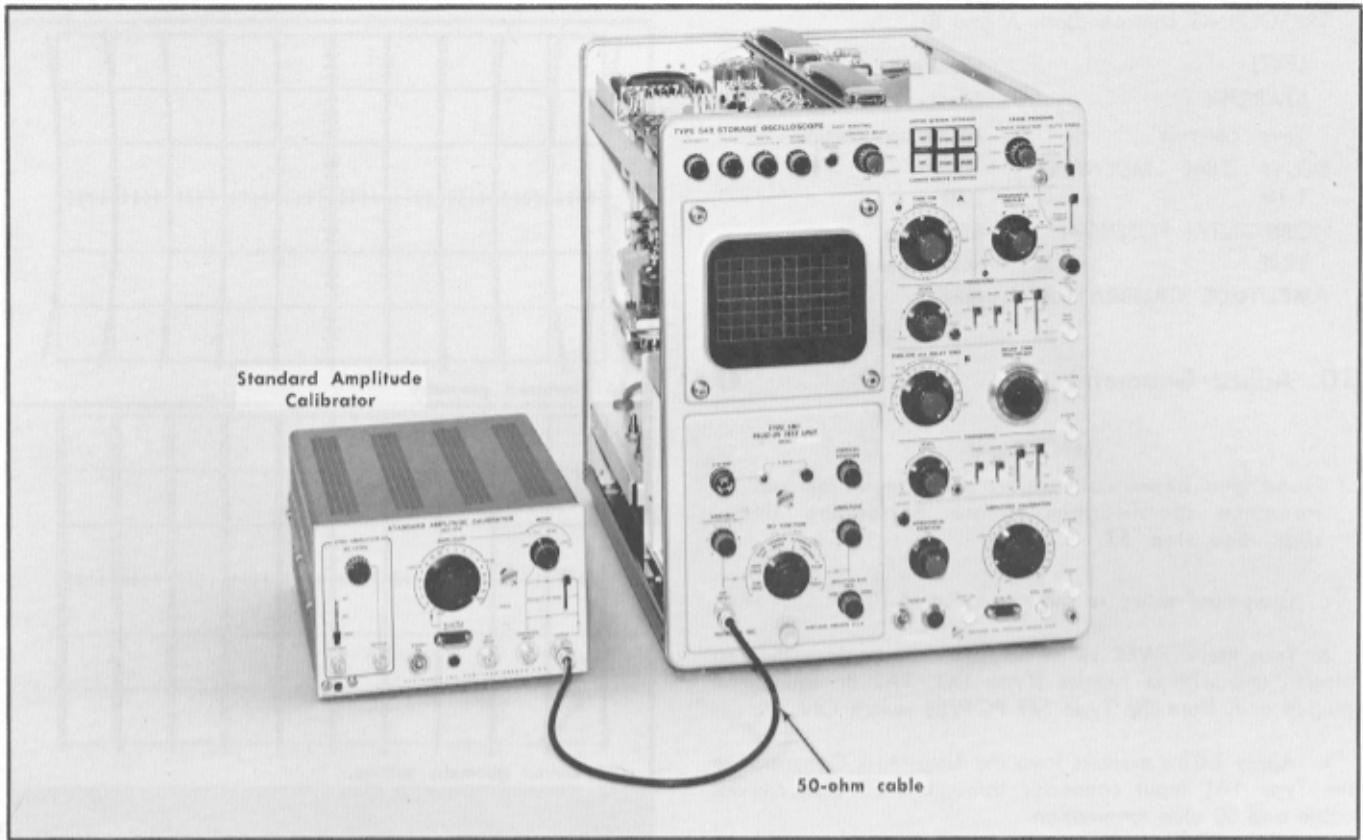

Fig. 6-12. Equipment setup for steps 11 through 14.
- a. Equipment setup is shown in Fig. 6-12.
- Equipment setup is shown in Fig. 6-12.